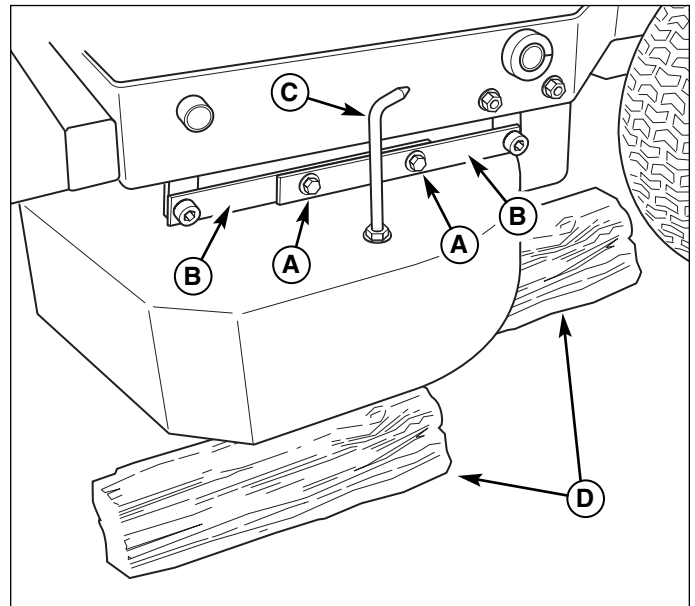

Figure 14. Deck Leveling Linkages
5. Loosen the bolts (A, Figure 14) that secure the connecting links (B) together. This will remove any tension from the mounting linkages and pivots.
7. Verify that the deck height indicator (C) is aligned with the 4" mark (if in the HIGH RANGE) or the 2" mark (if in the LOW RANGE). Adjust the indicator position if necessary.